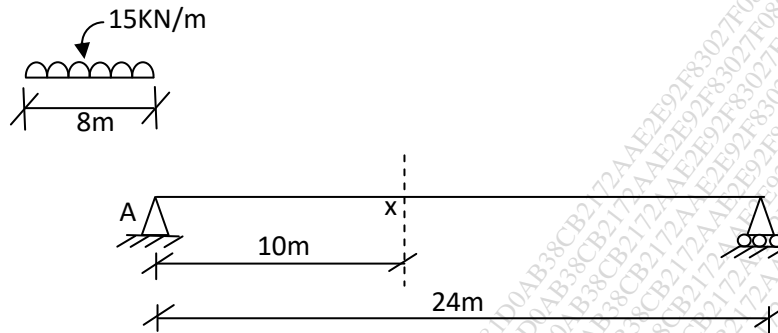

Figure 7
- Q.8 The load system shown in figure 7 crosses a girder 24m span. Find the maximum shear force and bending moment at a section 10m from the left support. 15